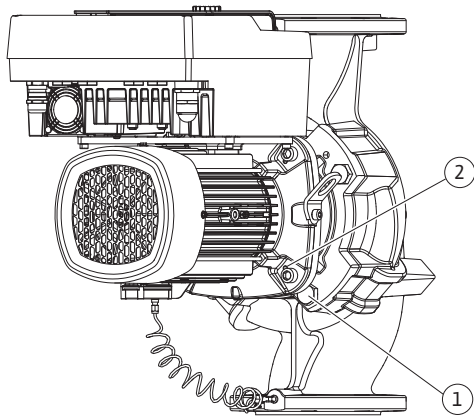

Fig. 101: Pressing off the motor impeller unit via threaded holes (DN 100 ... DN 125)
22. Pull the motor impeller unit off the pump housing. Use the two threaded holes (see Fig. 101, Item 1) for this purpose.